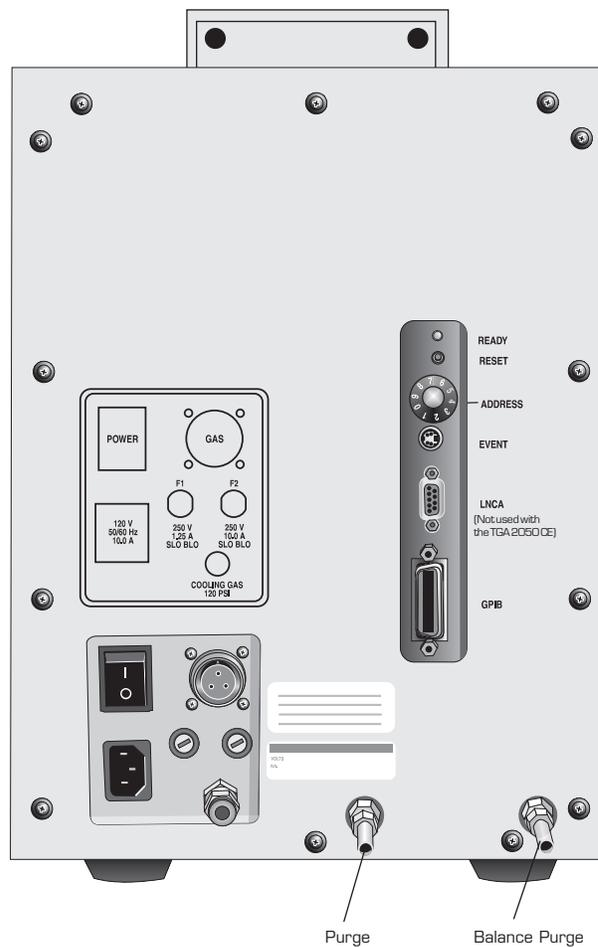

Figure 2.8
1. Locate the GPIB connector on the right rear of the TGA instrument (See Figure 2.8).
1. Locate the PURGE and BALANCE PURGE fittings on the back of the TGA instrument (Figure 2.8).